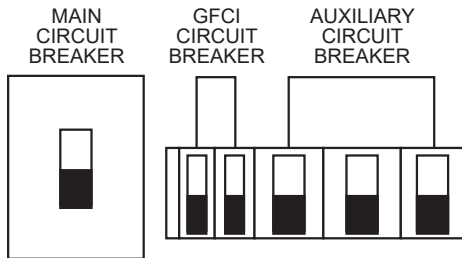

Figure 41. Main, Auxiliary, and GFCI Circuit Breakers (OFF Position)
1. Place the **main, auxiliary, and GFCI circuit breakers** (Figure 41) in the **OFF** position.